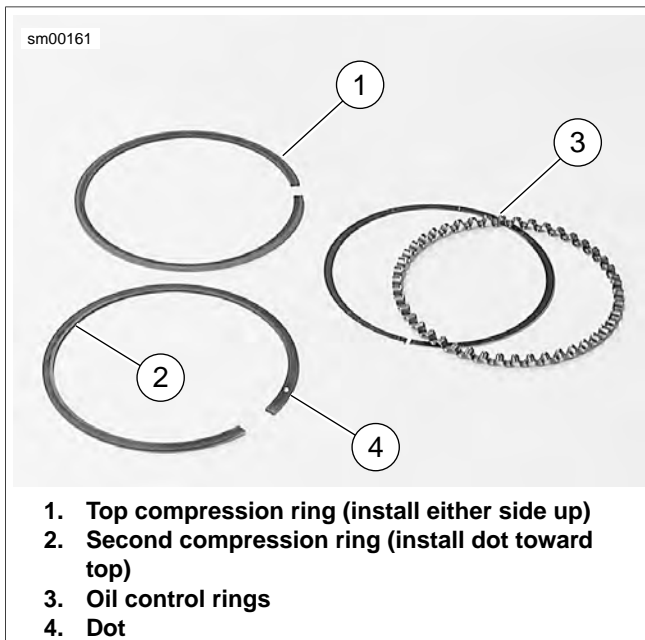

Figure 3-76. Piston Rings
See Figure 3-76. Piston rings are of two types: compression (1, 2) and oil control (3). The two compression rings are positioned in the two upper piston ring grooves. The dot (4) on the second compression ring must face upward.